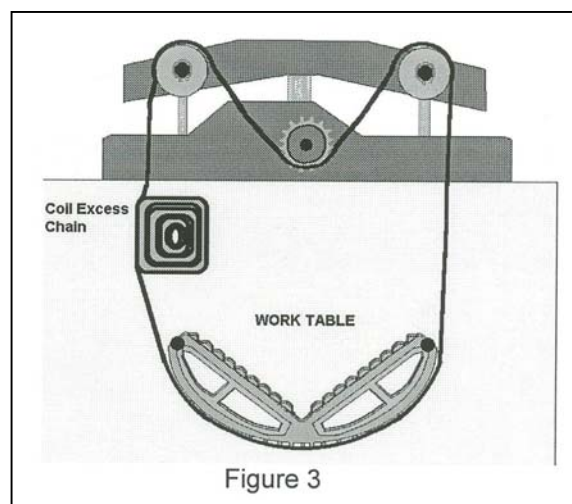

Figure 3
**PROFILE CUTTING ATTACHMENT Standard on VH-24 / VH-40 models (figure 3)**
This device is used for cutting irregular shapes with the use of the hydraulic table. Set the chain up as shown in figure 3. Set the material in the holder and guide with the hand wheel on the right side of the table. The excess chain should be coiled out of the way, while operating the machine.